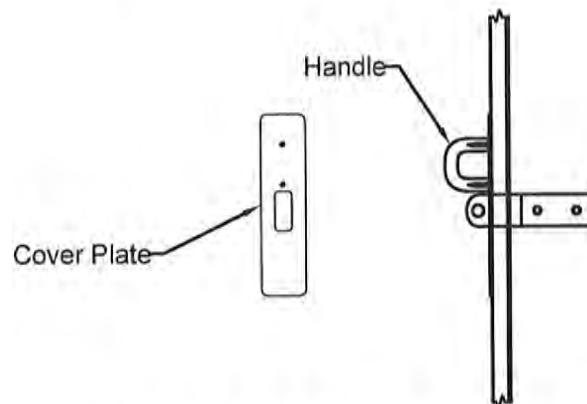

Figure 10.2 Cover Plate And Hasp Handle
- 10.6 Locate the hasp handles and screws. Attach handle with screws through the back side of the door and into the handle. See Figure 10.2.